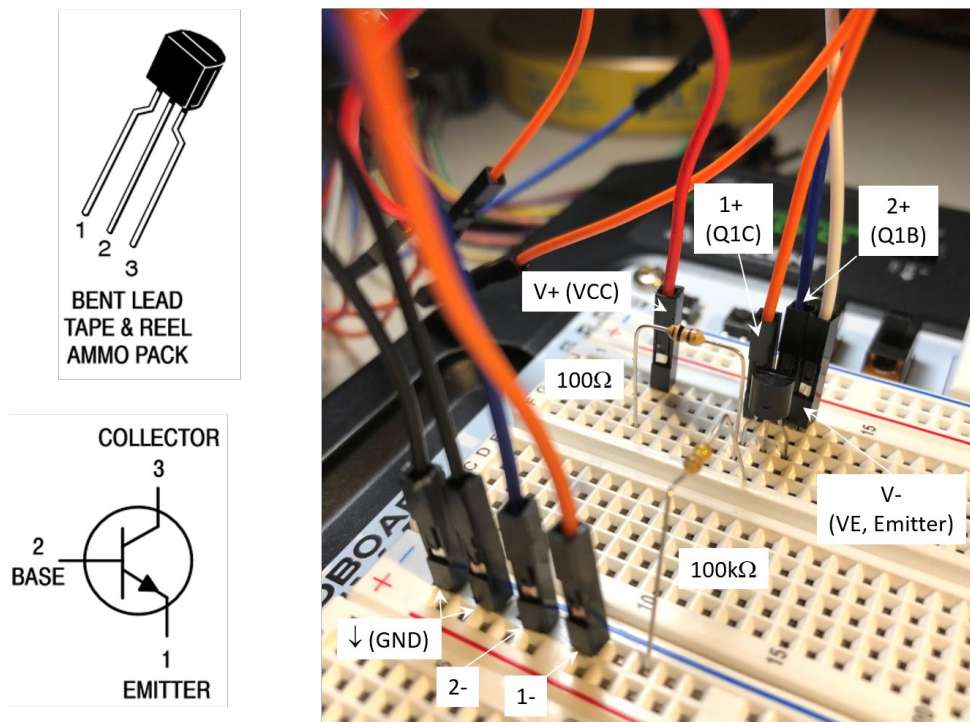

Fig. 2 Experimental setup for the DC characterization of an NPN-BJT 2N3904
- 1.5 As shown in Fig. 2, prepare the circuit using the same VE and VCC settings in Steps 1.2 to 1.4.